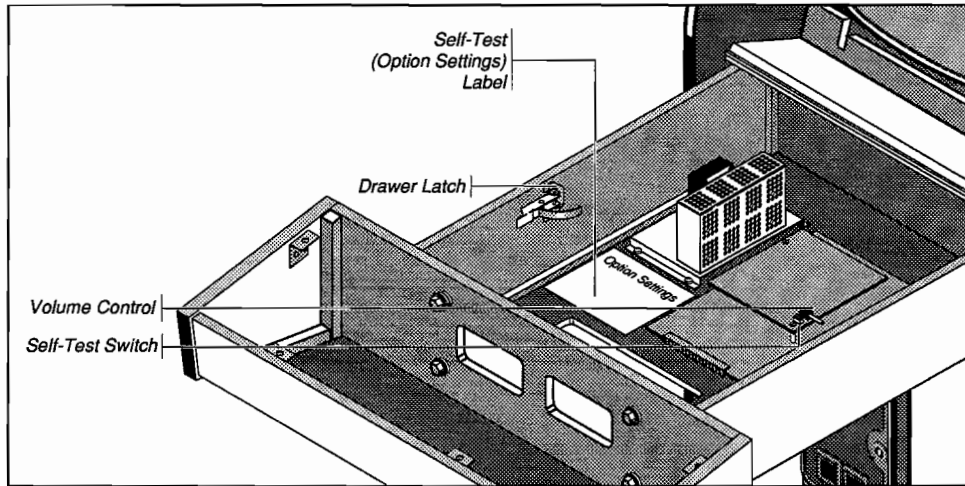

Figure 1-1 Control and Switch Locations
1. Reach in through the openings on the front of the drawer, and open the spring draw latch on each side. Pull the drawer out partly. (See Figure 1-1.)